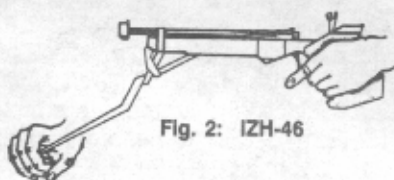

Fig. 2: IZH-46
B) Now return the cocking handle to it's rest position by moving the handle to the rear of the pistol. (See Fig. 2-Page 8) You can tell that you have actuated the cocking handle completely by the fact that the return movement of the handle is under pressure. Keep your fingers away from the trigger and breach at all times when cocking the air pistol. (See Fig B)